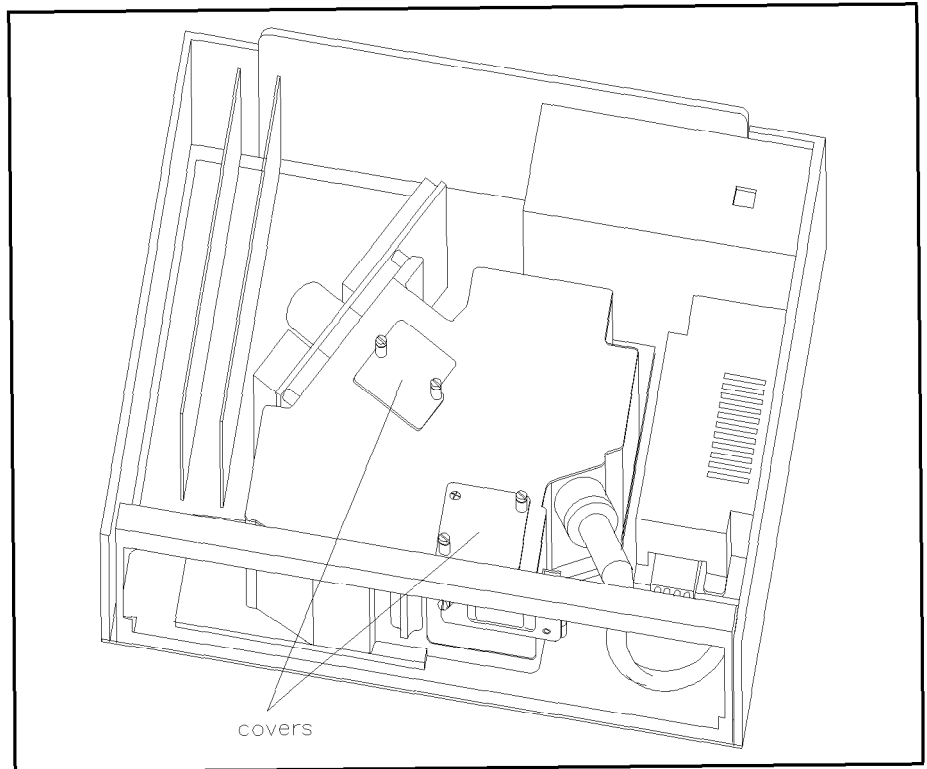

Figure 4-29. Location of Slit Covers
2. The slits are positioned underneath the special slit covers (see Figure 4-29) on the top of the optical unit. Using the slot screwdriver supplied in the standard accessory kit, loosen one or two of the screws and swing the cover to one side.